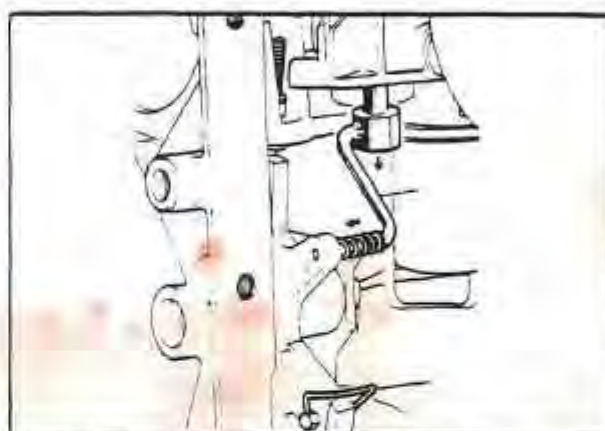

Fig. 17 **MANUAL CONTROL VALVE AND PARKING PAWL LINKAGE**
2. Remove the manual control valve linkage by pushing the link into the quadrant arm and compressing the spring. This will disengage the other end of the link from the control valve. Remove the linkage. *Fig. 17*